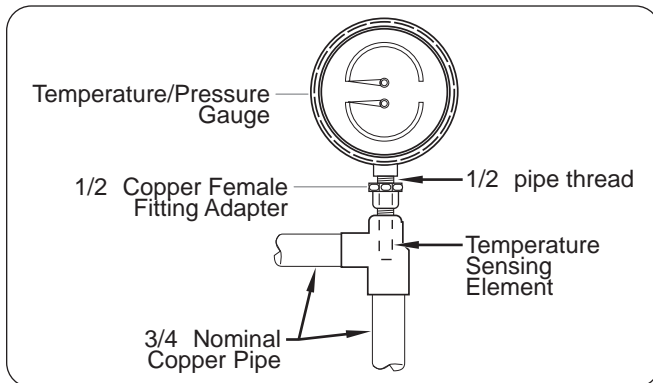

Figure 8. Recommended Temperature/Pressure Gauge Installation
3. Install a temperature/pressure gauge in both the inlet and outlet lines. Install the temperature sensing bulb in the water stream. The gauge must be mounted upright (see Figures 8 and 9).